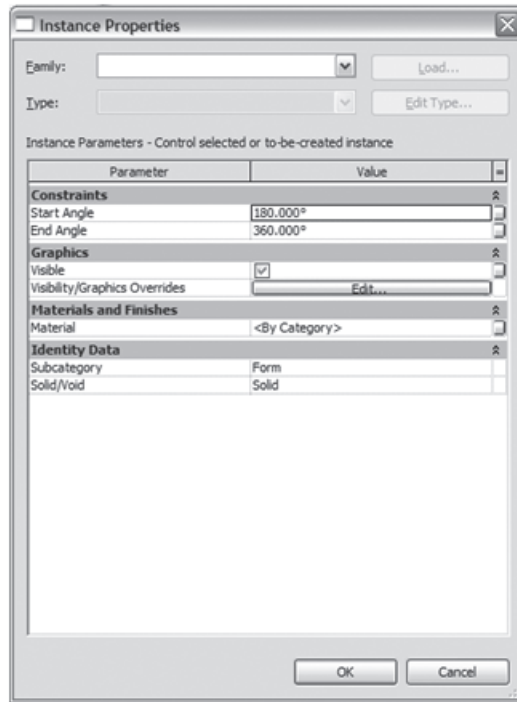

Figure 14.30
5. Select the top face of the form and open the Instance Properties dialog box. Change the End Angle value to 180, and click OK. This will give you a half-revolve form (Figure 14.30).